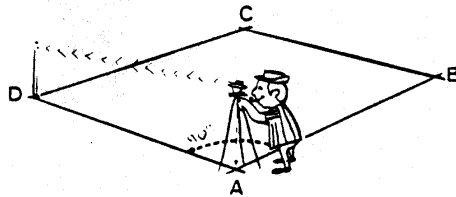

Fig. A-4
6. Turn the telescope tube exactly 90 degrees to the left and sight. (Figure A-4) Measure off the correct length of the foundation. Use the plumb bob, aligned with the vertical cross hair to locate Stake D. (Figure A-3) Drive a stake at that position. Locate the center of the stake top and drive a nail into the top at this point. When a line is connected between Stake A and B the outside edge of the foundation will be located. Connect Stake A with Stake D with a builder's line.